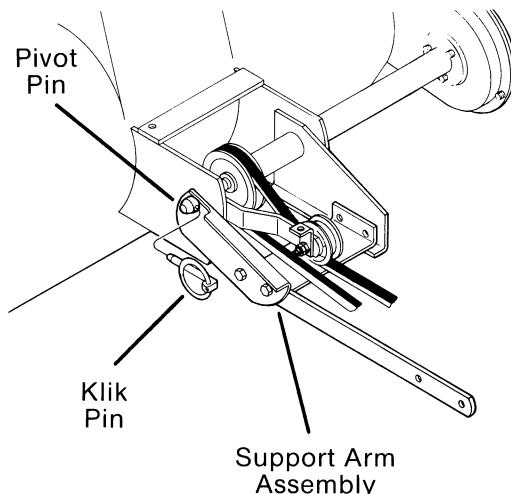

FIG. 2
- A. Slide support arm assembly onto pivot pin and secure in place with klik pin as shown in (Fig. 2).